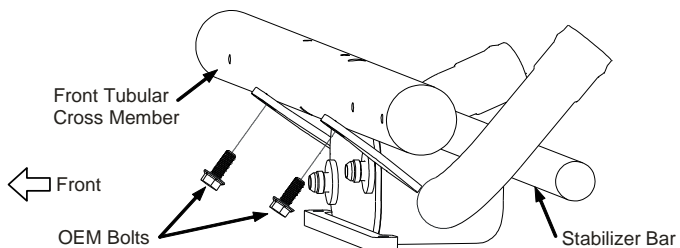

Figure 5.9
- ☐ Install the cooler under the tubular front cross-member ahead of the stabilizer bar with the oil ports facing forward using the OEM skid plate bolts. Leave bolts slightly loose to allow for optimal radiator hose fitment. (Figure 5.9)